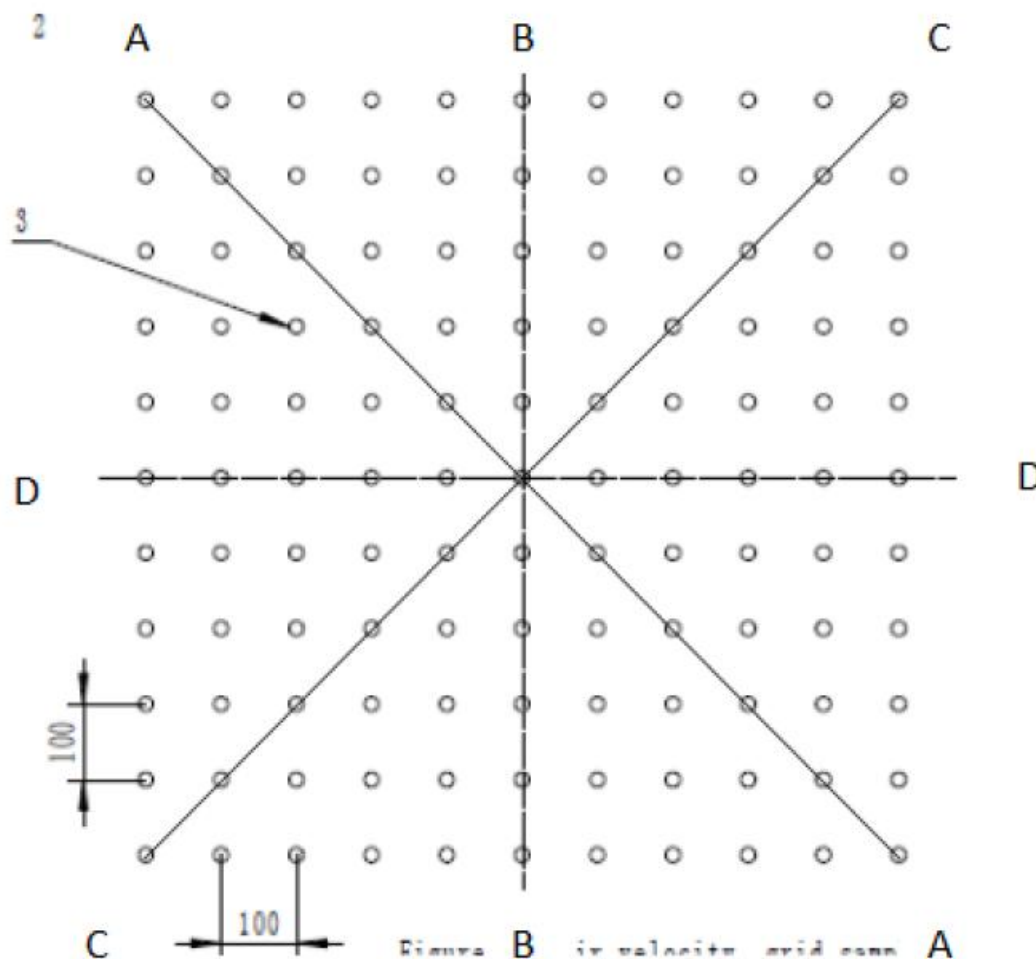

Figure 13a.
- Lock the machine as per position in Figure 13a.
- Measure the air velocity during 15 seconds interval at distances of 3000 ± 20 mm and $6\ 000 \pm 20$ mm from the air duct pipe outlet based on sampling grid of 100×100 mm ± 5 mm as per Figure 13a.